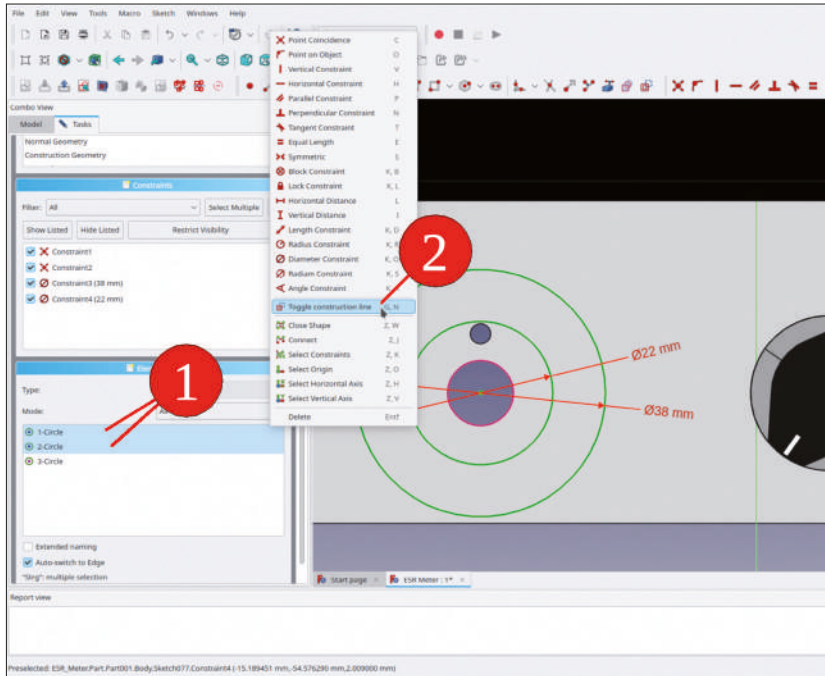

Figure 8-4
8. In the 'Elements' list, mark the two circles. Right-click the selection. From the context menu, select 'Toggle construction line' (Figure 8-4). The two circles appear in blue color now but will be invisible with the sketch.